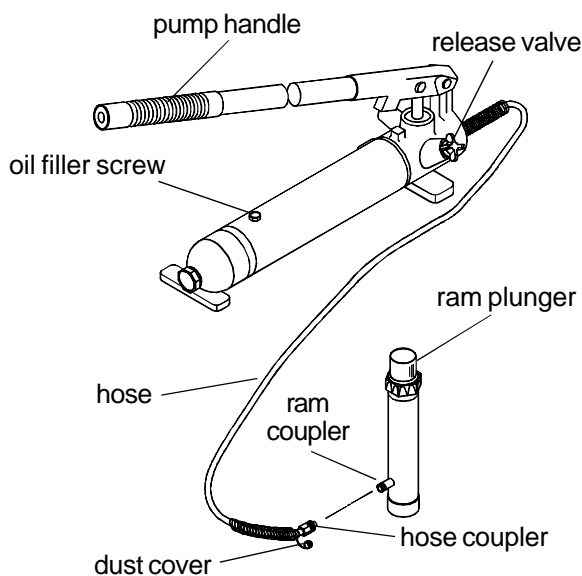

Figure 1 - Atd-5800 and Atd-5810 Nomenclature
Use Fig. 1 as reference
1. With ram fully lowered, set pump unit in its normal, level position. Locate and remove oil filler screw (see Figure 1).